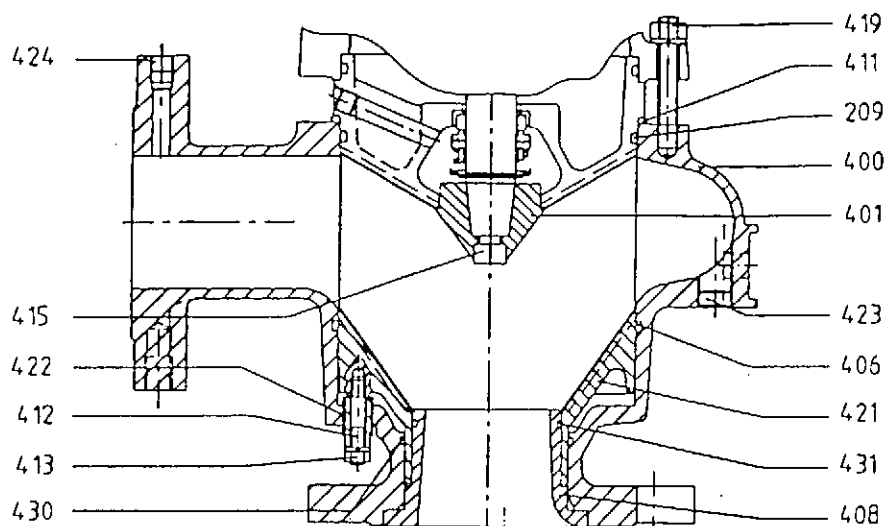

Fig. 8: C080 regulable
3.3.5 REMOVAL OF LINER, WEAR RING AND SUCTION CASING FOR "REGULABLE" PUMPS (Fig. 8 - 10)
3.4.4 ASSEMBLY OF LINER, WEAR RING AND SUCTION CASING FOR "REGULABLE" PUMPS (Fig. 8 - 10)